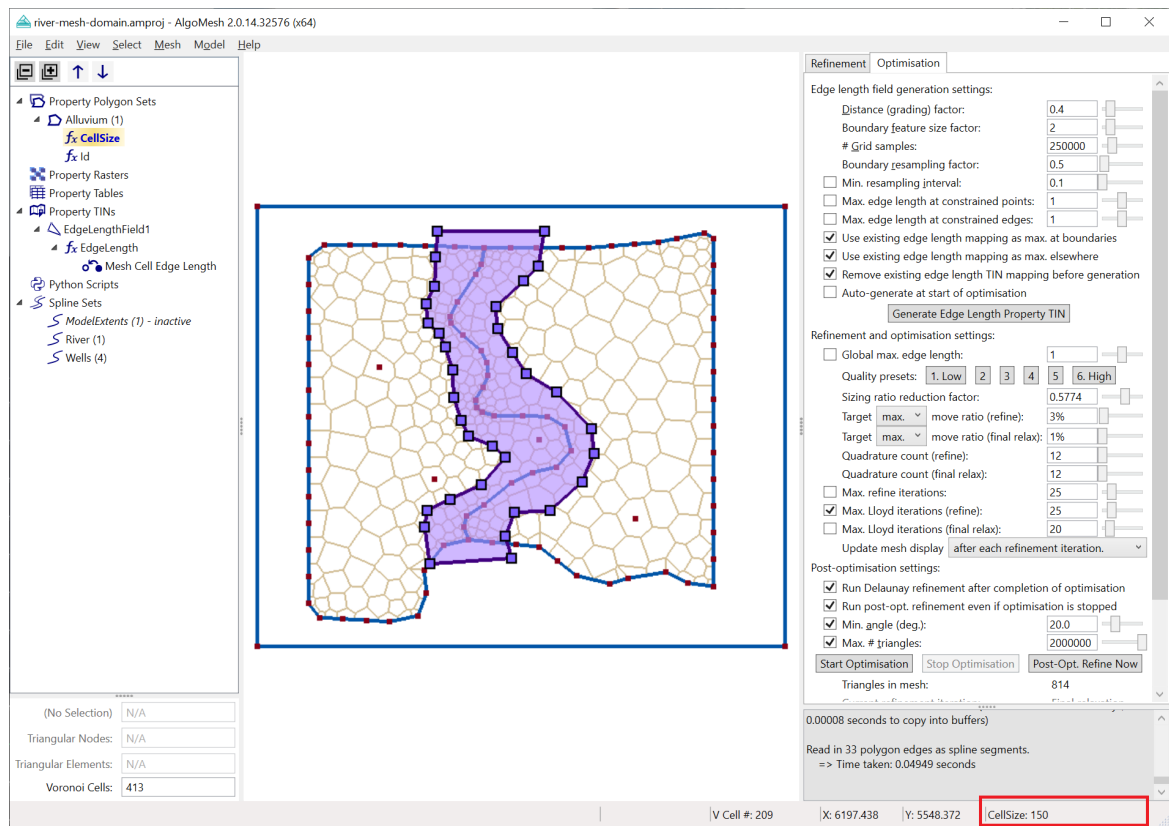

Figure 52: The value of the currently selected property at the mouse cursor position is shown on the right-hand side of the status bar.
- Now move the mouse cursor over the top of the alluvium polygon in the mesh view. You should see the value 150 displayed in the status bar in the bottom-right corner of the AlgoMesh window when the cursor is on top of the polygon. When the cursor is outside the polygon, you will see "Outside (0)" displayed instead, indicating that this property has no value outside the polygon. Figure 52 shows the property value displayed in the status bar, outlined in red on the figure.